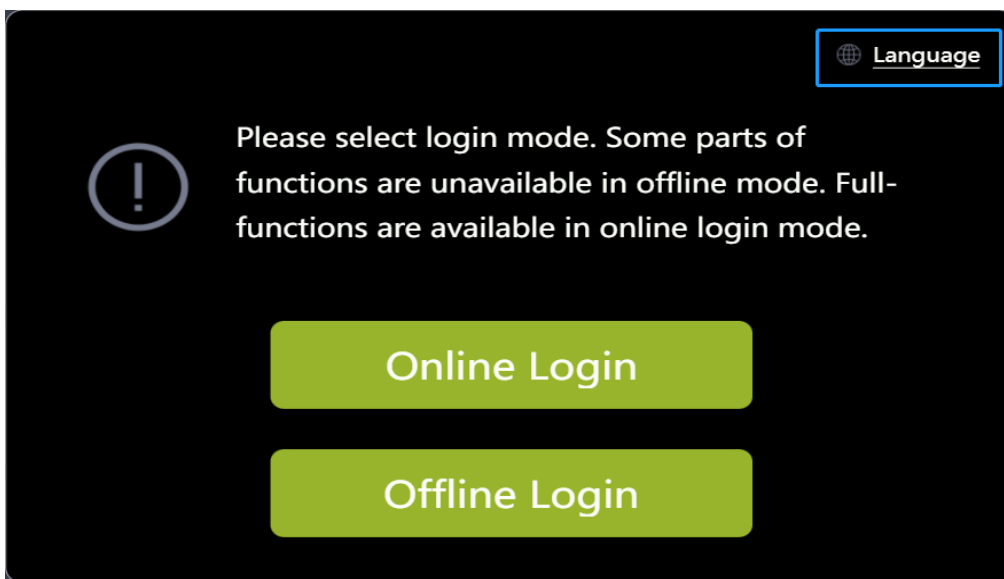
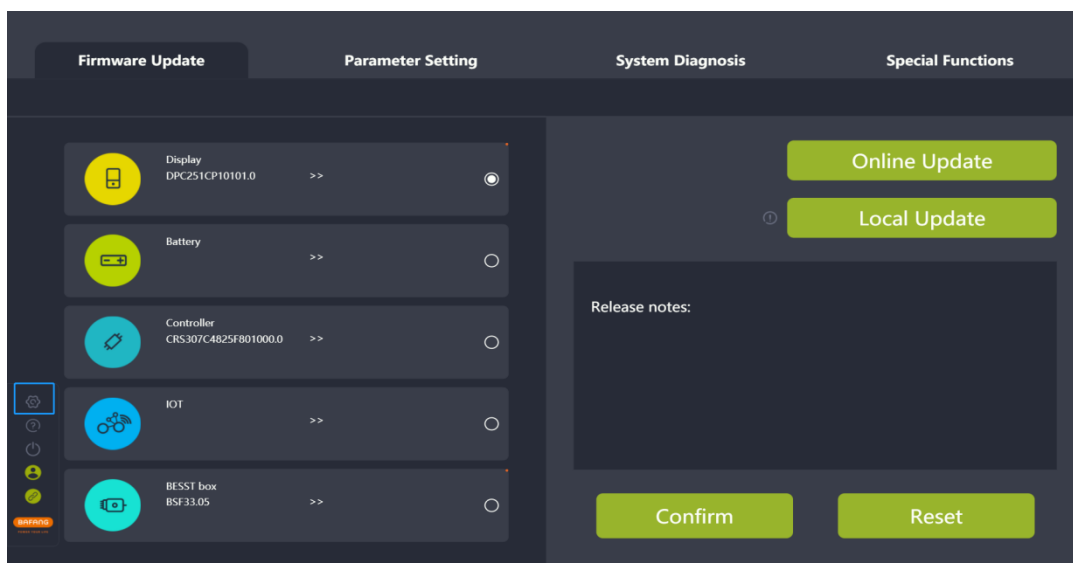

Fig. 8-1 Language
Fig. 8-2 Language
- (1) Set the language in the right corner of the Login interface (as shown in the Fig.8-1) or select the "Settings" icon on the left interface (as shown in the Fig.8-2);
- (2) Select the desired language in the drop-down list;
- (3) Click the "Confirm" icon;
- (4) Restart the software and the selected language will take effect.